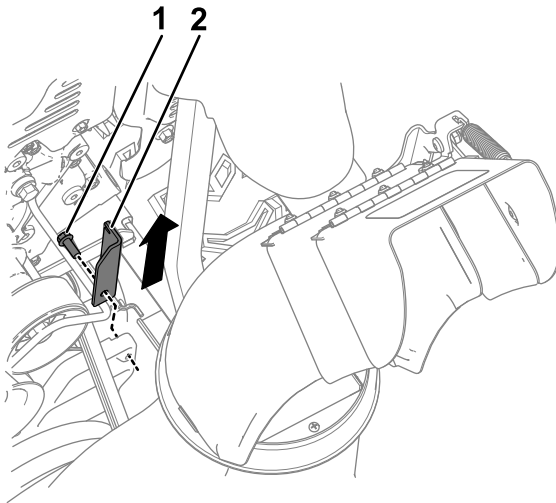

Figure 3
4. Remove the existing traction plate from the friction wheel plate by removing the bolt holding it in place (Figure 3).